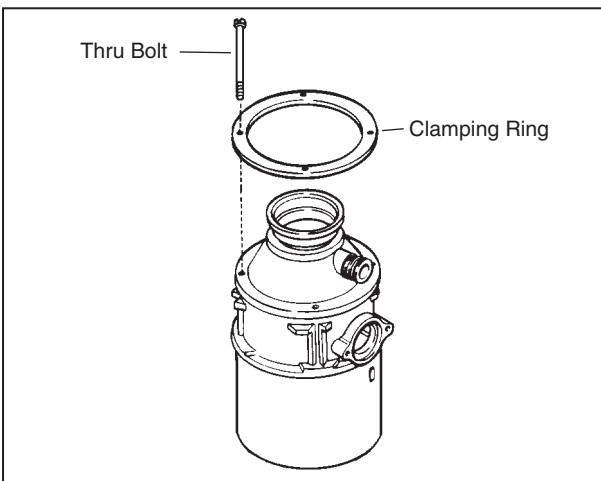

Figure 4.17
5. Remove four thru bolts (thru bolts are secured with nuts or screwed directly into lower end frame). (See Figure 4.17.)